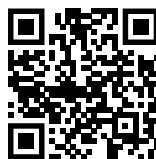

Fig. 141
- ▶ Open Liebherr SmartMonitoring Dashboard. (see Fig. 141)